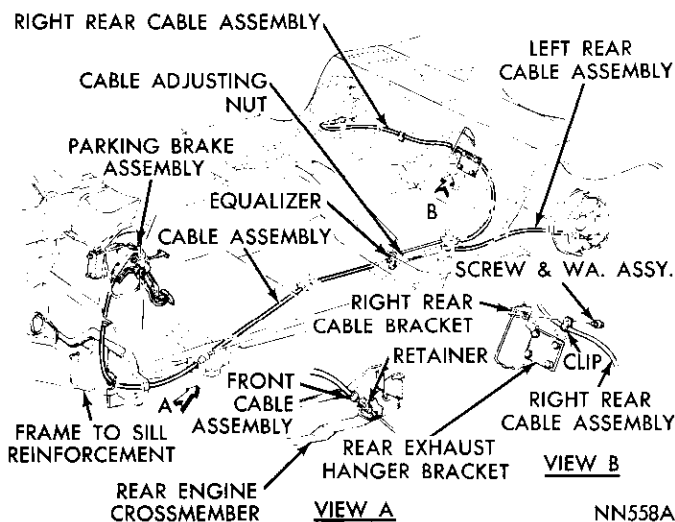

Fig. 1—Parking Brake Cable Routing
(1) Disengage front parking brake cable from equalizer bar. Refer to (Fig. 1).
(2) Disengage cable from guide clip.
(3) Using a screw driver force cable housing and